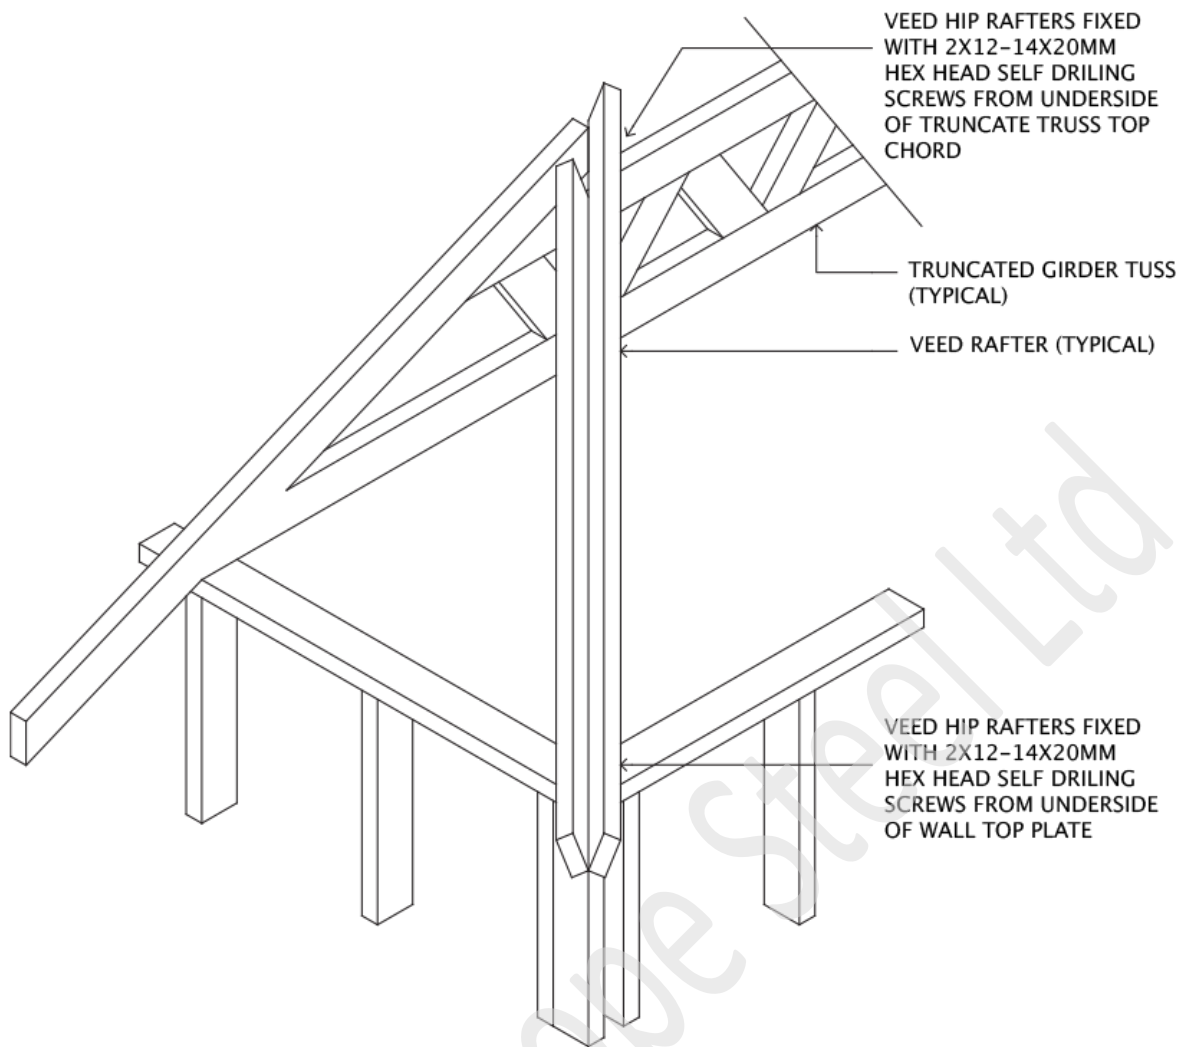

Figure 7.10 Veed common rafter hip
STEP 10: Creeper rafters are supported by the hip rafter and the external wall. They are generally short rafters near the corner of the building. Ensure sufficient back span is provided to give the installed rafter sufficient strength. Mark the overhang length on the creeper rafters as per the jack rafters. Install the creeper rafters in the locations shown on the layout drawing fixing to the creeper rafter and the wall top plates as shown in Fig. 7.18 to 7.21. Fix creeper rafter to hip rafter as shown in Fig. 7.10 to 7.22.
Fix creeper rafter to hip rafter as shown in Fig. 7.10, 7.11 and 7.12.